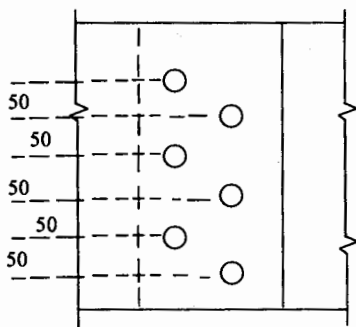

Fig. 1
- (b) Determine the strength and efficiency of the lap joint shown in following Fig. 1. The bolts are of 20 mm diameter and of grade 4.6. The two plates to be joined are 10 mm and 12 mm thick of grade Fe-410.